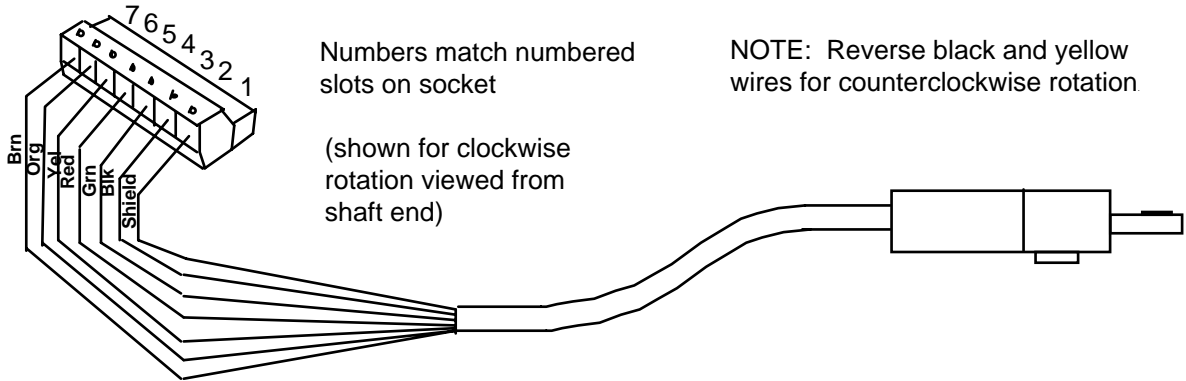
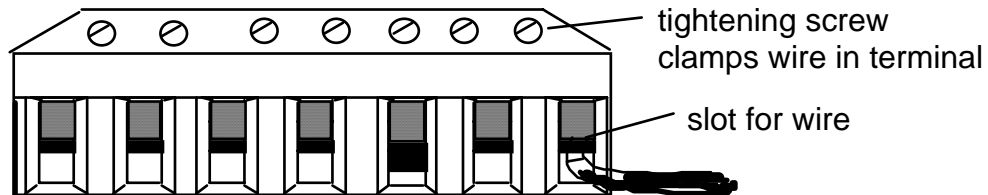

Figure 2-6. Wiring for resolver cable (see table below)
Figure 2-7. Attaching wires to connector
5. Attach the wires to the L-shaped connector as shown in Figure 2-6. Make sure you connect the black and yellow wires correctly based upon the way your resolver will rotate—clockwise or counterclockwise. To connect a wire, find the correct terminal and loosen the screw over it by turning it counterclockwise (see Figure 2-7). Strip the correct wire for this terminal 1/4" (6.4 mm) from end. Insert bare wire into the terminal 90% of the way. Tighten the screw. The metal tooth inside the terminal will clamp down on the bare wire for a tight connection. Make sure that the metal tooth is clamped down on the bare part of the wire, not on the insulation.
4. Attach the wires to the connector as shown in Figure 2-6. You will be wiring in parallel (#4 red to red, #5 yellow to yellow, etc.), so that when you are finished, you should have two wires of the same color connected to each terminal on TB105. To connect a wire, refer to Step 5 in "To wire the resolver". Also see Figure 2-7.